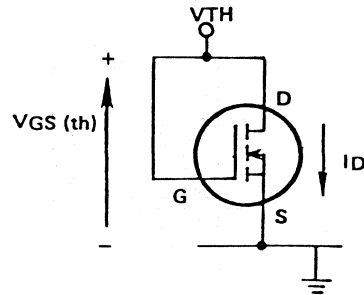

Figure 2. N-Channel $V_{GS(th)}$ Measurement
- A. $V_{GS(TH)}$ – The gate threshold voltage. It is defined as the voltage from gate to source required to produce a specified drain current. For ease of measuring, the drain is commonly shorted to the gate. (The measurement circuit is shown in Figure 2.)